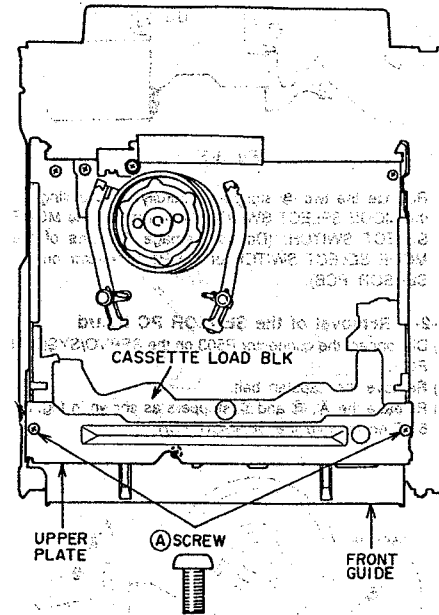

Fig. 3-1
- 1) Remove the two (A) screws on the UPPER PLATE, as shown in Fig. 3-1 then remove the UPPER PLATE.